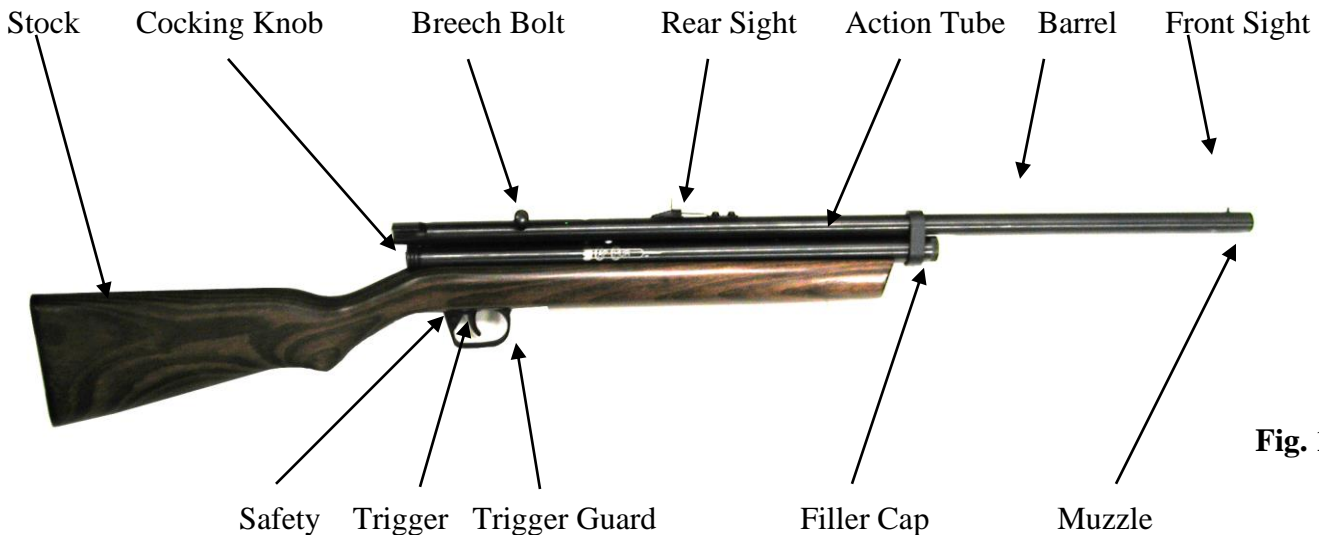

Fig. 1
Learning the names of the component parts of your new Projector will help you better understand the warnings and instructions in this Owner's Manual. (See Fig.1)
- Move the elevator down away from the muzzle (Fig.1) to make the syringe/dart hit higher on the target. Next, tighten the windage adjustment screws by turning clockwise.